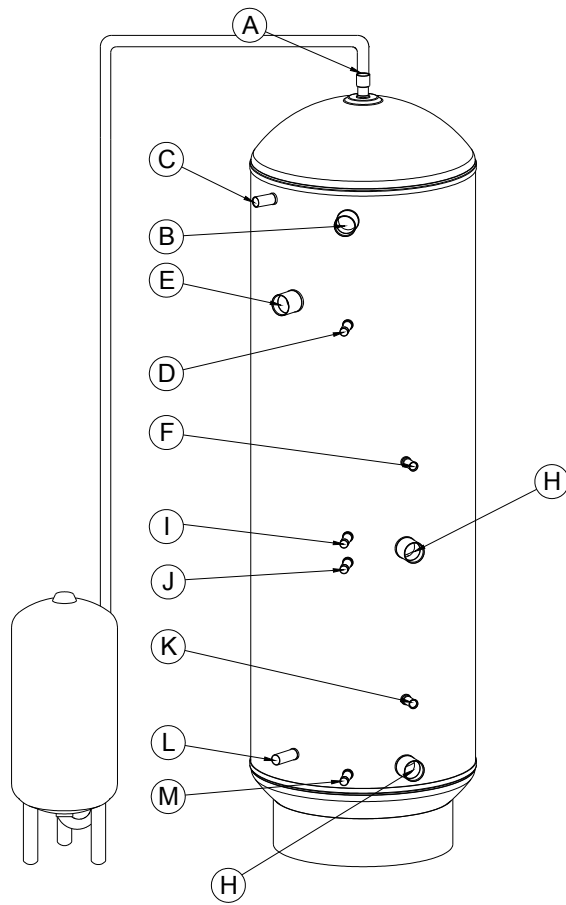
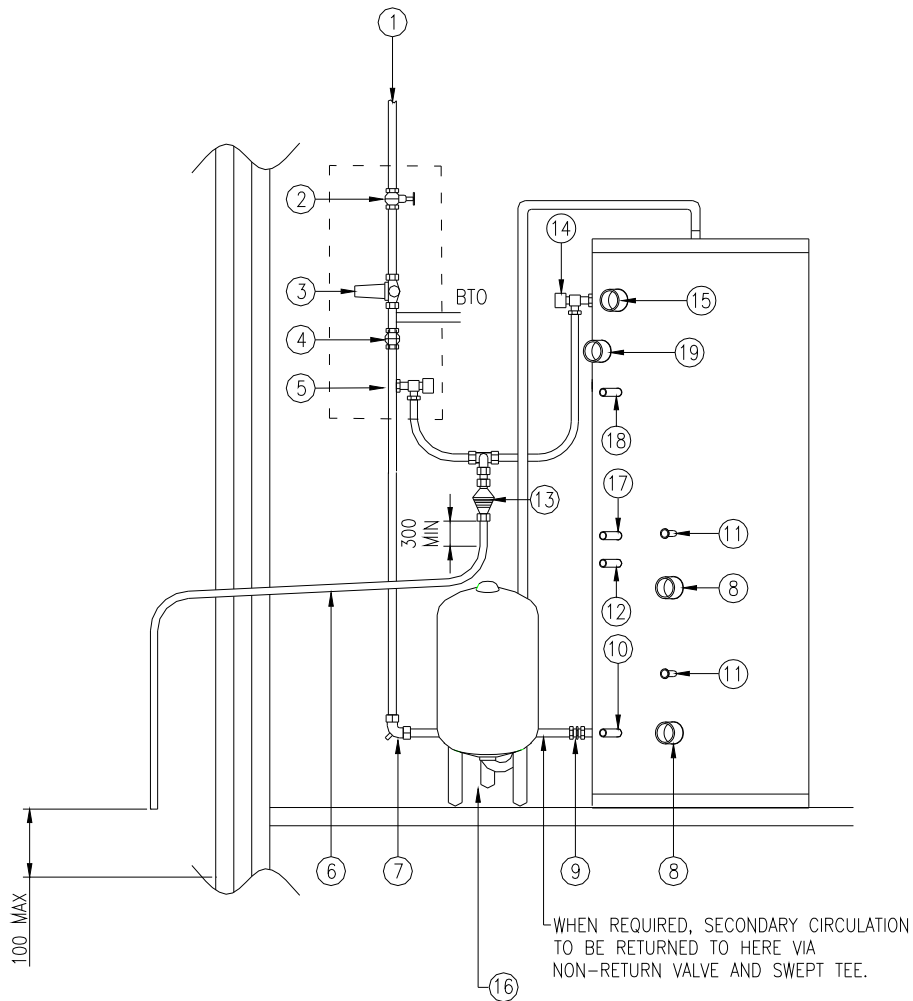

Fig 1.2
Fig 5
**4.7. Pipework connections** – All Pipework connections to the cylinder **MUST** be made in accordance with Fig 1.1 or Fig 1.2.
**5.3. Connections** -The primary flow and return connections should be made in accordance with Fig 1.1 or Fig 1.2 using 22mm compression fittings, (not supplied). Note, that connections for the boiler are shown with the return above the flow, however, you can also connect the flow above the return.
**6.1. Connections.** Secondary circuit connections **MUST** be made to the cylinder in accordance with Fig 1.1, Fig 1.2 and Fig 5. A drain cock (not supplied) should be fitted in the position shown in Fig 5 to facilitate draining of the cylinder.
**6.5. Pressure reducing valve** – Taking due account of the directional arrow, fit the pressure reducing valve (PRV) in accordance with Fig 5. This can be connected to a supply pressure of between 1.5 and 12 bar maximum.
**6.6. Expansion relief valve** – Fit the expansion relief valve (ERV) in accordance with Fig 5. This valve has been pre-set to lift at 6 bar. No other valve should be fitted between the expansion relief valve and the cylinder.
**6.7. Check valve** – Taking due account of the directional arrow, fit the check valve (CV) in accordance with Fig 5.
**6.8. Secondary circulation** – If the “Ferroli AquaCyl” cylinder installation requires a secondary circulation circuit a 1 ½” B.S.P. pipe stub is provided, a check valve should be connected via the cold feed should the secondary circulation be required (see Fig 5).
10.5. Drain the cylinder – When draining the cylinder, always switch off the boiler and the immersion heater first. Turn off the water supply at the stopcock (see Fig 5). Connect a hosepipe to the drain cock (see Fig 5) and route it to a convenient gully. Open the drain cock and all hot taps that are served by the cylinder. The cylinder may take several minutes to empty completely.